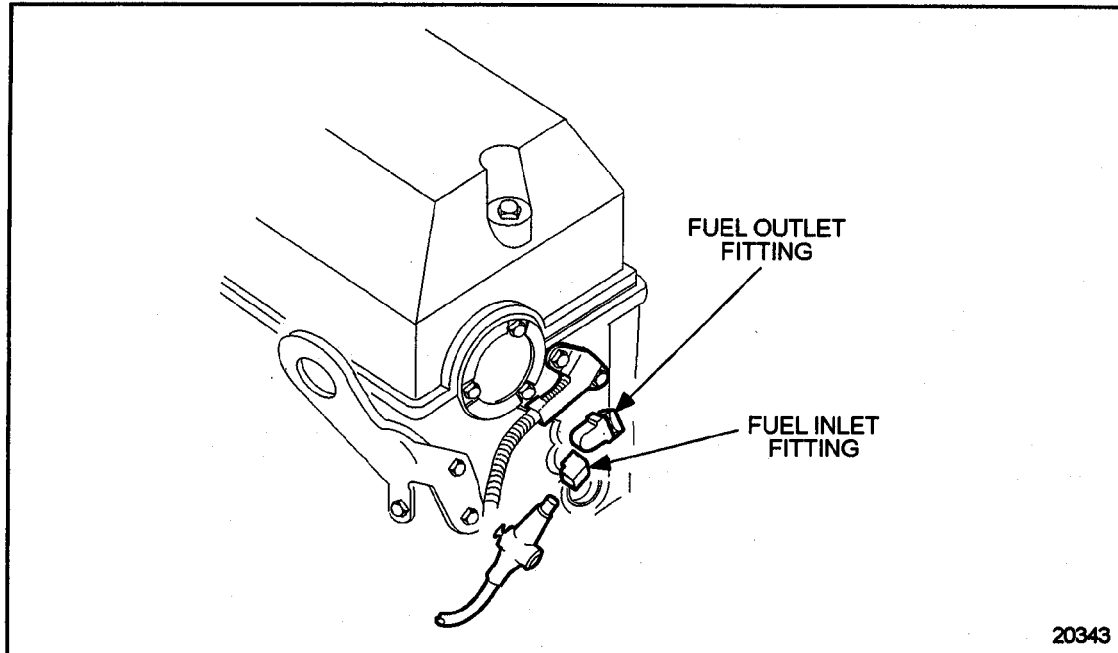

Figure 2-6 Cylinder Head Fuel Fitting Locations
2. Drain the cylinder head fuel gallery by removing the inlet and outlet lines from the fittings at the rear of the cylinder head. Blow low pressure compressed air into the inlet fitting for 20 to 30 seconds or until all of the fuel is purged from the cylinder head. See Figure 2-6.